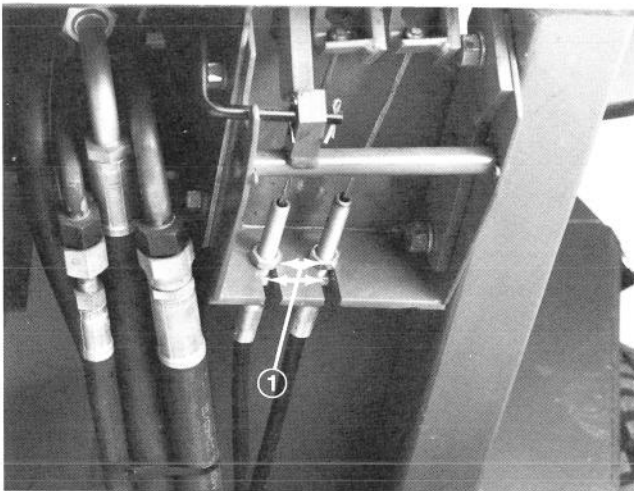

Figure 49
1. To reduce free travel of turn pedals — tighten the brakes — loosen front nut on threaded end of brake cable (Fig. 49). Then tighten rear nut to move cable backward until turn pedals have 1/2 to 1 inch (13 to 25 mm) of free travel. Tighten front nut after brakes are adjusted correctly.